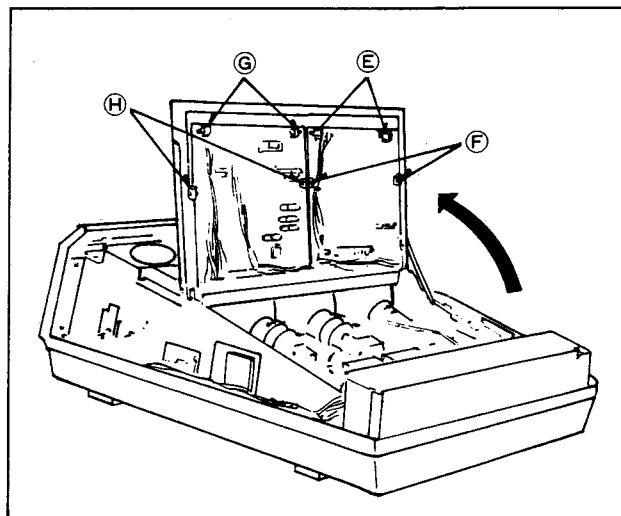

Fig. 5
- 2) Then lift the rear of the chassis as shown in Fig. 5.
- 3) Remove 2 stoppers ② and 2 claws ③ as shown in Fig. 5.
- 5) Remove 2 stoppers ④ and 2 claws ⑤ as shown in Fig. 5.
- 2) Lift the rear of the chassis as shown in Fig. 5.